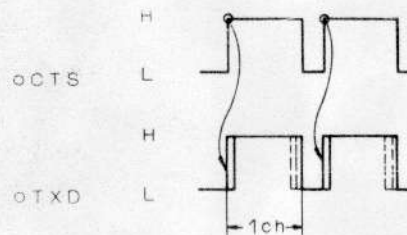

Fig. 4-2 TXD and CTS
① Message Recognition Routine
The flowchart of the message recognition routine in the dotted box (1) on the host CPU side is shown in Fig. 4-2